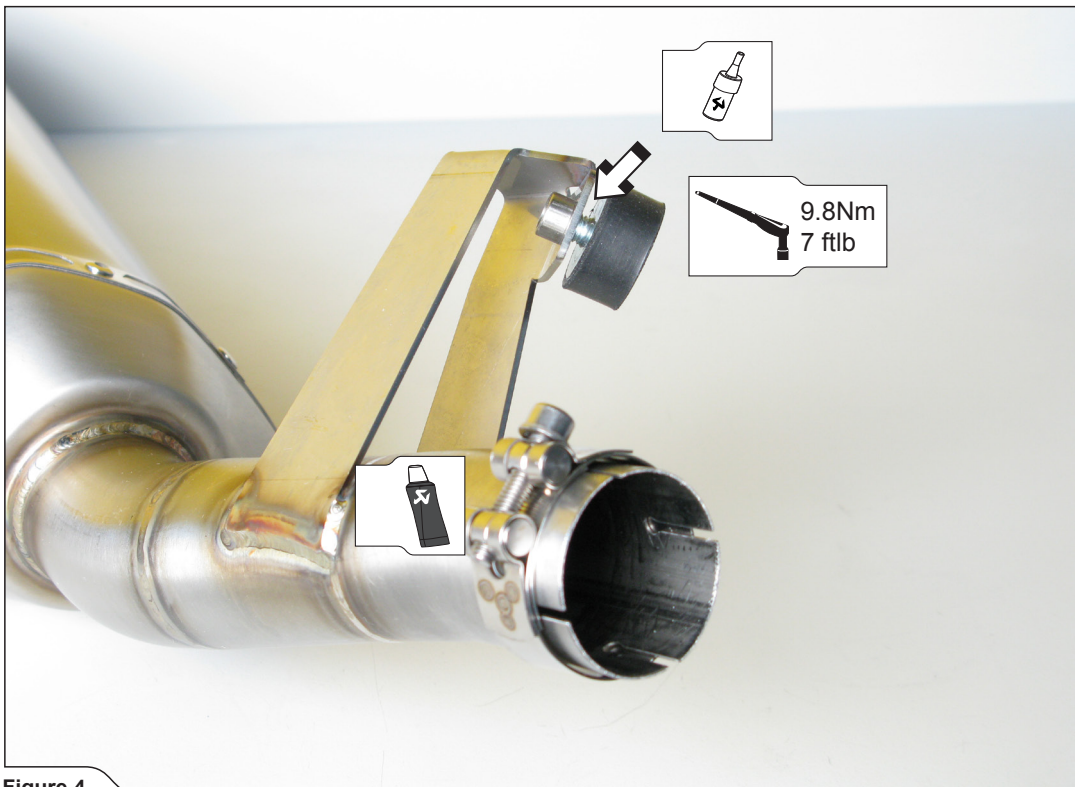

Figure 4
1. Correctly install Akrapovič metal clamp onto the muffler inlet as shown. Tighten the Akrapovič central stand rubber stopper onto the Akrapovič link pipe bracket (**Figure 4**)